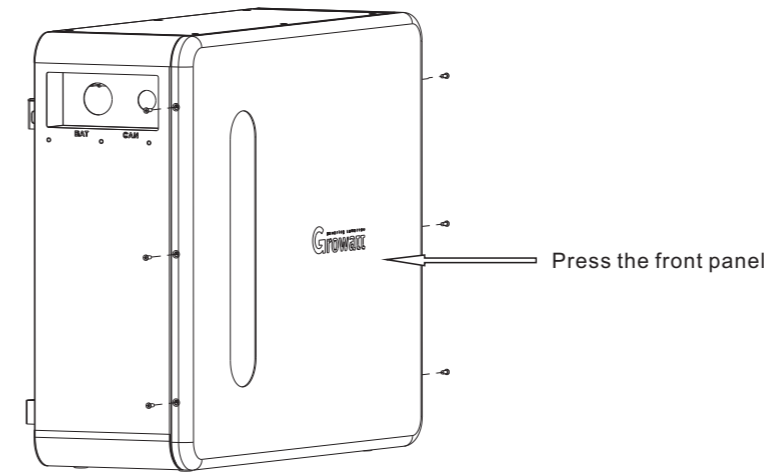

Figure18(Press the front panel)
2. Press and hold the front panel of the box body by hand to compress the sealing bar to ensure the matching of the hole position of the cross screws. Use the cross screwdriver to tighten the 6 M4 countersunk screws (as shown in Figure 18).